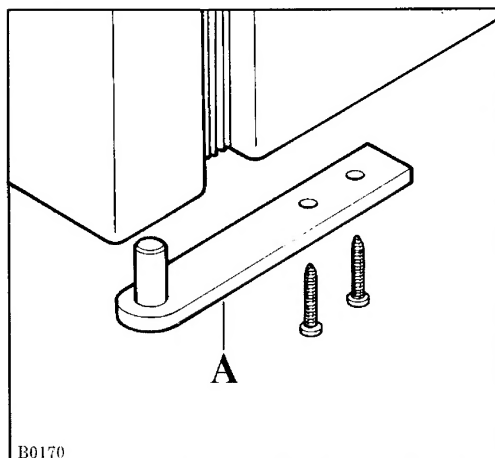

Fig. 3
- Remove the bottom hinge (A - Fig. 3) and refit it on the opposite side.